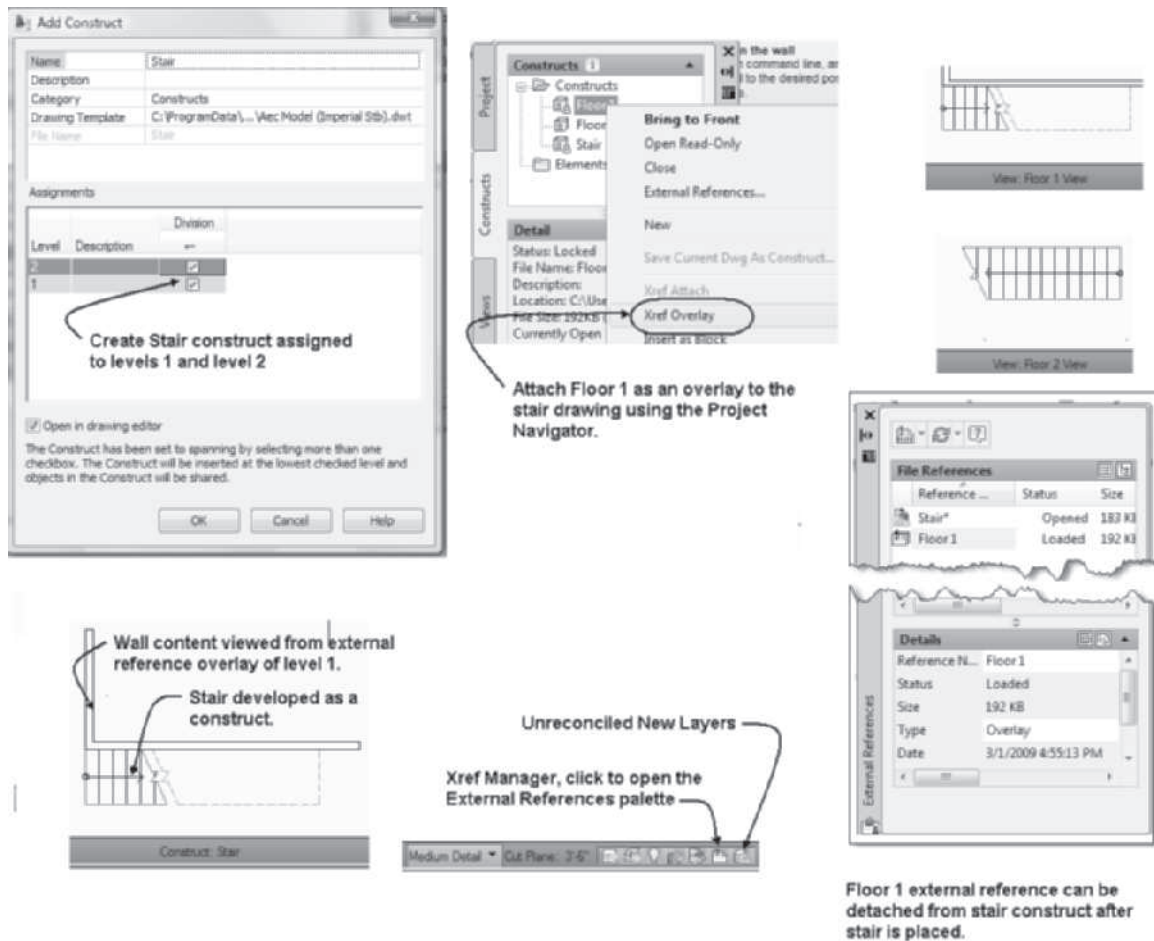

FIGURE 9.1 Creating a Stair Construct drawing
The stair construct can also be included in the model View drawing to visualize how the stair fits throughout the various levels. To create a stair construct, create a new Construct drawing and attach the construct floor plan for level 1 as a reference file. This allows you to determine an appropriate start and end point for the flight based upon existing walls of the floor plan. After creating the stair construct, you can detach the floor plan construct to remove the duplication of walls. The View drawing for a level displays the stair construct with the upper or lower flight components displayed appropriate to the level, as shown at the right in Figure 9.1.
2. Select the Construct category, right-click, and choose **New Construct**. Type **Stair**, the name of the construct, and assign levels 1 and 2 as shown at the left in Figure 9.1. Check the Open in drawing editor checkbox.
6. Select the **Views** tab and open the View drawing for each level in the **Project Navigator** to view the stair shown at the right in Figure 9.1.